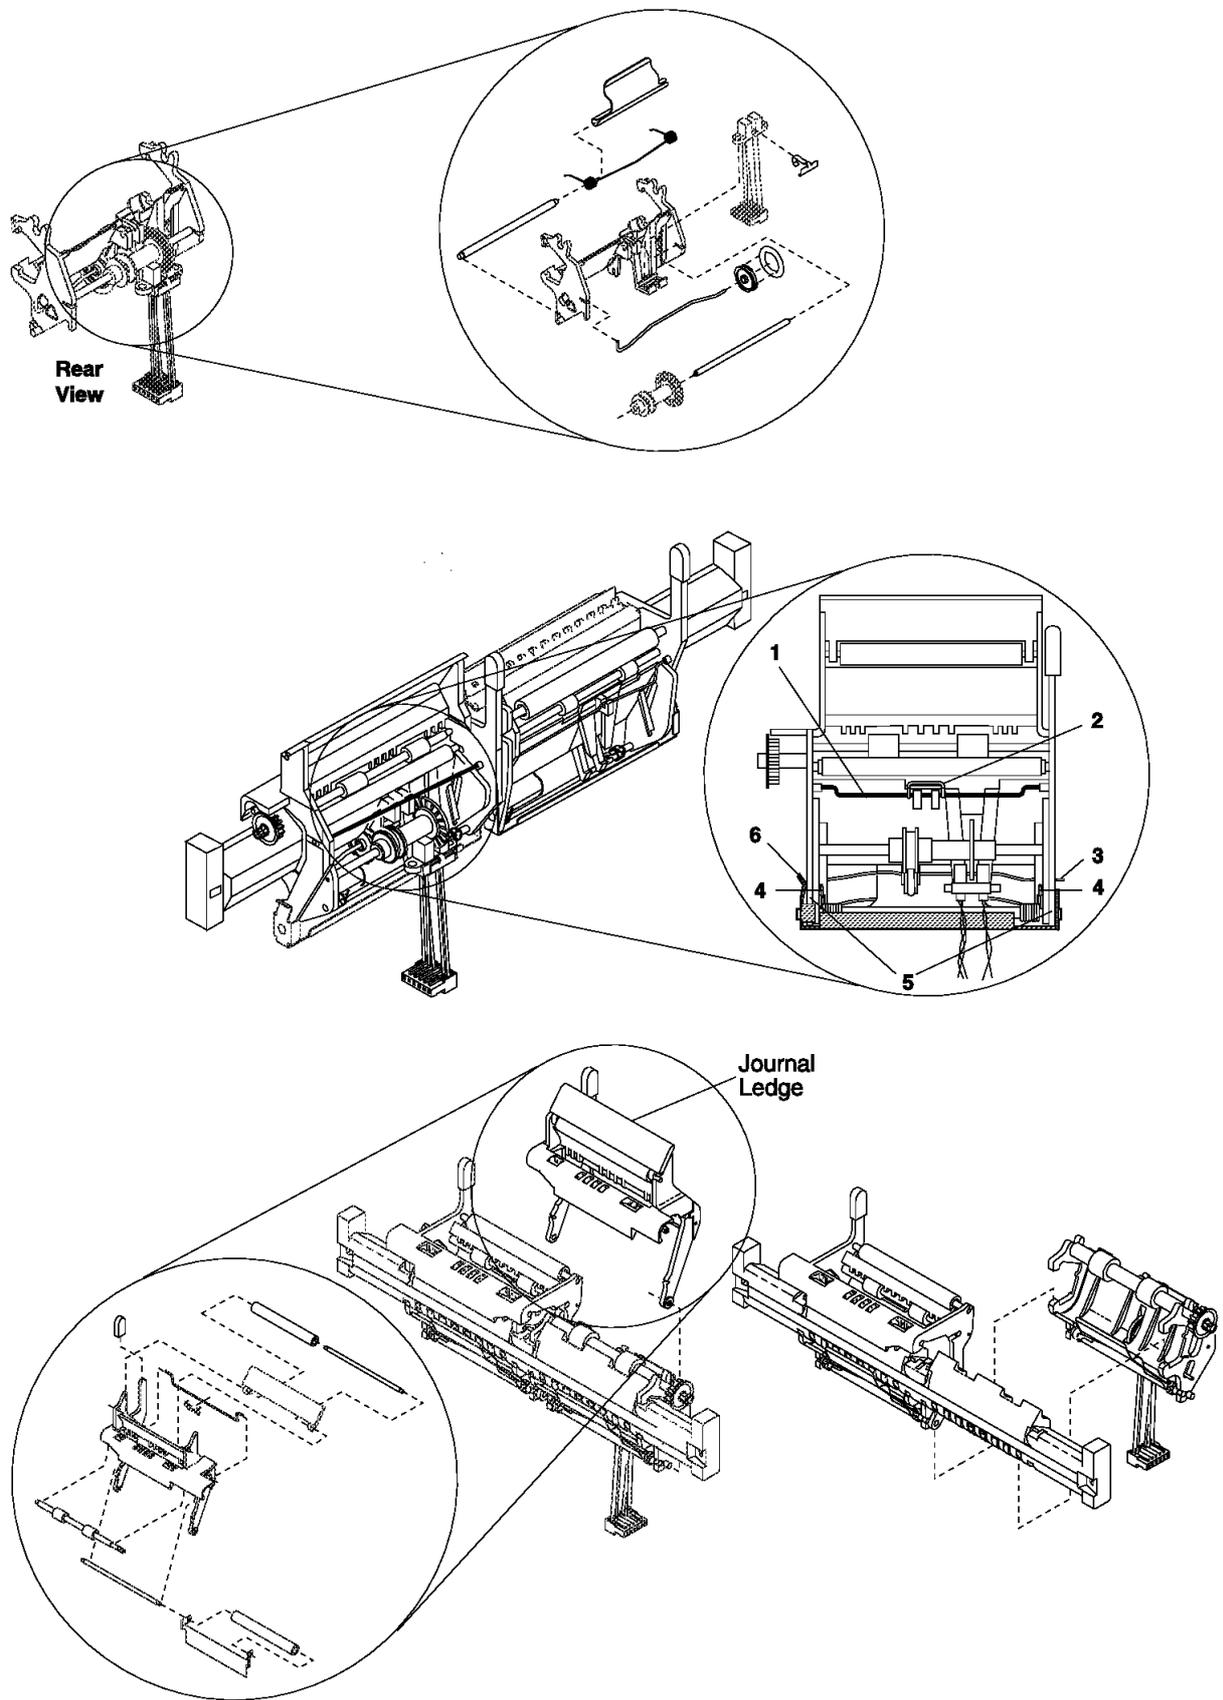

Figure 6-77. JNL Assembly
2. Gently spread the arms of the roller to allow the holes to fit over the posts on the frame. Reinstall the roller leg retainer (6).
3. Attach the toggle spring (1) at its center attachment point then install the toggle spring retainer clip (2). Ensure that the spring is correctly seated and that the roller moves back-and-forth correctly.
5. Reinstall the O-ring shaft (3) by inserting it through the hole in the outside leg of the roller, then snapping the shaft into the inside leg of the roller. Check that the bail springs (4) are correctly positioned. See Figure 6-77.